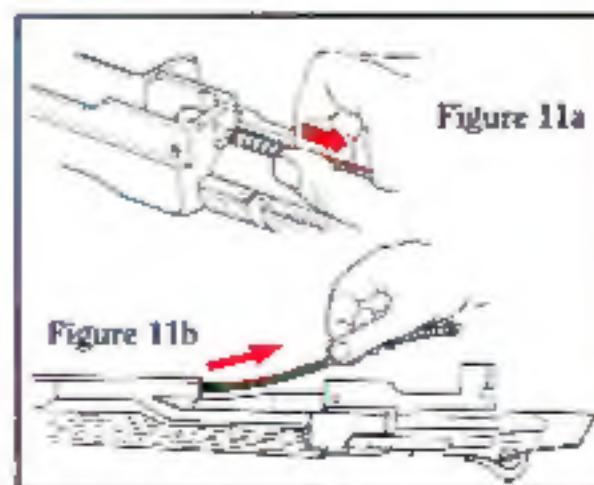

Figure 11a
6. Remove guide rod and recoil spring (See Figs. 11a and 11b).